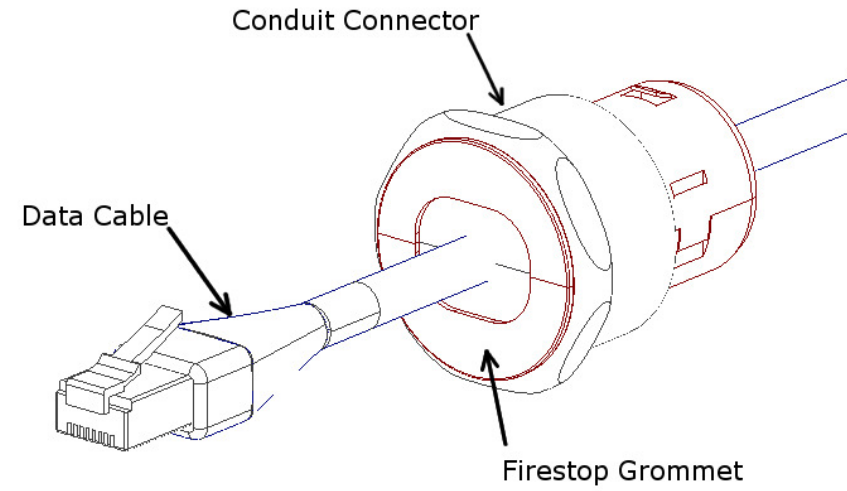

Figure 5 – Pull the data cable through far enough to allow attachment to the access point (8" - 10"). Snap the grommet around the cable(s).
Step 9 – Place the access point in the opening of the enclosure (reference *Figure 5*) with the access points LED light away from the key lock. If the key is turned the proper direction, the access point should drop in and self-center itself so that the feet on the access point falls into the key slots on the mounting plate (reference *Figure 6*).
Step 6 – Run the data and power cable (if required) through the conduit connector located on the side of the access point enclosure. Pull the data cable through far enough to allow attachment to the access point (8" - 10"). Clip the provided firestop grommet onto the data and power cable inside the enclosure and slide the grommet into the conduit connector so the end is flush with the connector (reference Figure 5).